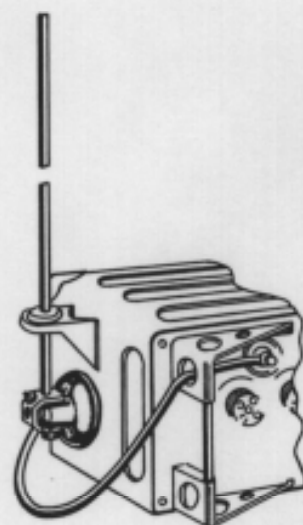

Fig. 6 Aerial Base
- (a) The batteries to the power input plug (9) on the W.S. 62, using the connector provided.
- (b) Plug the rod aerial (if used) into the aerial base (8) and secure in position by means of the knurled screw. (See Fig. 6).
- (c) Connect the aerial base to the aerial terminal (13) if rod aerials are used. Connect the end of the aerial to the aerial terminal (13) when the 100 ft long wire aerial is used.
- (d) Into each of the output sockets (7) plug in a headset and microphone assembly No. 10 and/or a morse key.